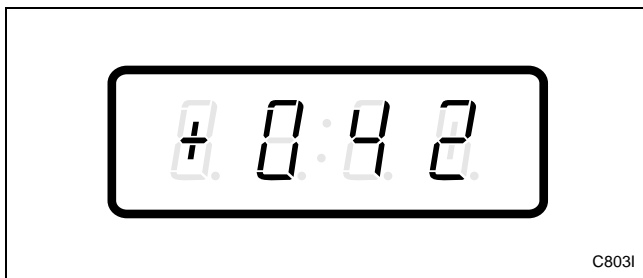

Figure 127
3. Press the DELICATES (+) or the COLD (-) keypad to scroll through the programmable options until “+042” appears in the VFD. Refer to *Figure 127*.